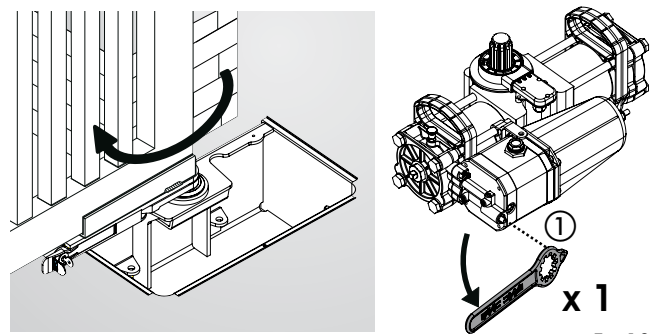

Fig. 12
- 2) Consulting the instructions in chapter 7.1, hydraulically release the operator, using the key (Fig. 1 ref. ⑩) on the release screw (Fig. 12 ref. ①)